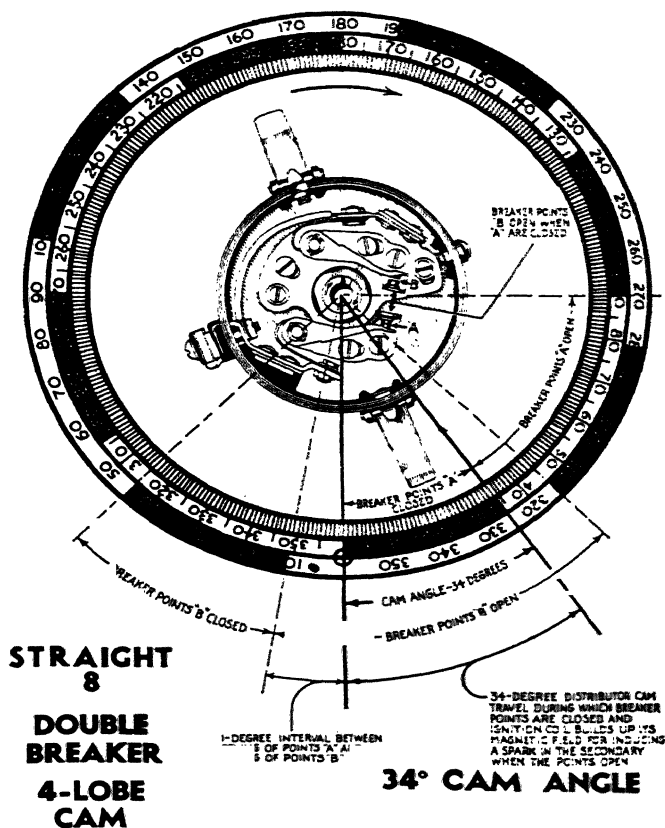

Fig. 37. Oscillograph Cam Angle
**Meaning of Cam Angle.** The term "cam angle" as applied to ignition distributors, Fig. 37, is the number of degrees through which the cam travels while the breaker points are closed and the coil builds up a magnetic field in the primary which, upon the opening of the points, induces a high-tension current necessary in the sec-
**Synchronizing Breaker Points on Double-Breaker Lever Distributor.** The distributor head should be driven and while rotating the position of the light noted on the oscillograph scale. Rotate the distributor cup so that the light breaks or goes out at the zero position on the scale. For example, in the chart, Fig. 37, showing the cam angle for a straight eight-cylinder engine, note that the zero point has been placed (by shifting the distributor cup) exactly at the place where *A* opens, firing that cylinder. Since the next cylinder in this engine is shown on the chart to fire 45 degrees after the previous cylinder, the plate holding the movable contact arm *B* can be loosened and shifted to a position where light goes out at specified point.